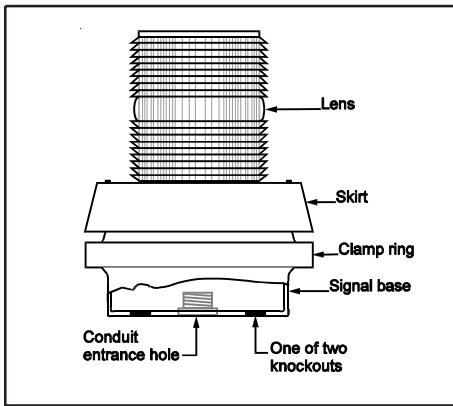

Figure 1. Catalog Series 51SIN
1. See Figure 1. Remove the screw in the clamp ring, remove the ring, and lift the lens/lamp assembly off of the base.